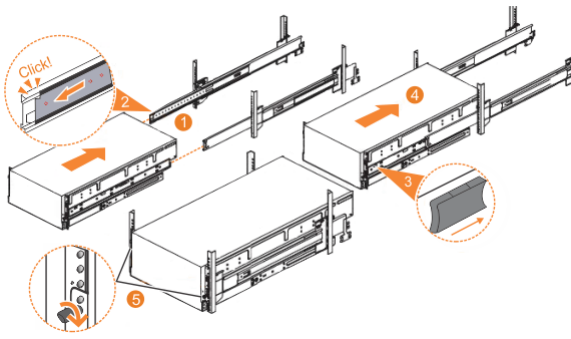

Figure 61. Replacing the 5U enclosure in the rack
1. Fully extend the left and right drawer sections from the rack to lock the rails in the extended position (1 in Figure 61 on page 58).
2. Ensure that the ball bearing retainer clicks into place inside the front of the left and right drawer sections (2 in Figure 61 on page 58).
4. Locate the left and right blue release tabs near the front of the enclosure. Press both release tabs forward to unlock the drawer mechanism (3 in Figure 61 on page 58).
5. Push the enclosure firmly into the rack (4 in Figure 61 on page 58).
6. Tighten the locking thumb screws (5 in Figure 61 on page 58) to secure the enclosure in the rack.